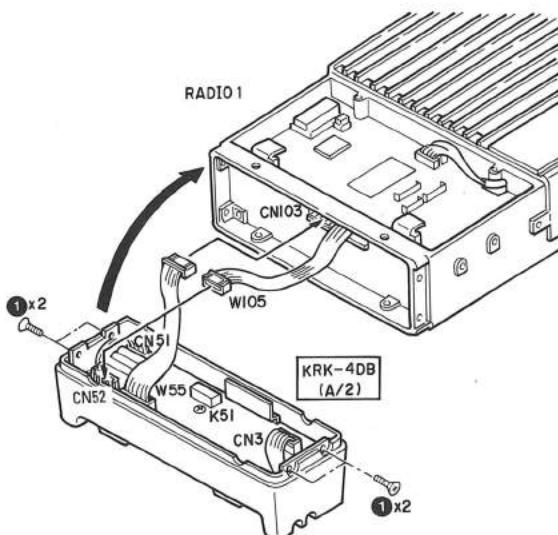

Fig. 1-3
### 3-1. Connection of radio 1 and KRK-4DB A/2 (unit with a relay) (Fig. 1-3)
4. Install the KRK-4DB B/2 on radio 2 using the four flat-headed screws (N32-3006-46) (①). (Fig. 1-3)